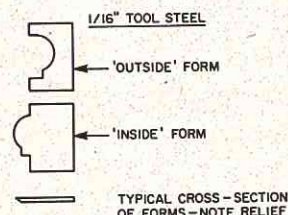

FIG. 2
c) Make two form-tools from 1/16" tool steel, one of half of the outside shape; the other of half of the inside shape. File plenty of back-relief into the cutting edges of the forms. See Fig. 2. Note that "outside" tool is